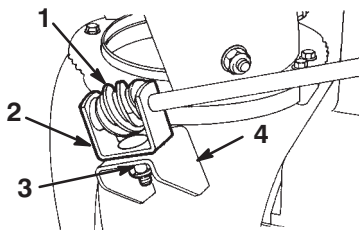

Figure 10
2. Apply No. 2 general purpose grease to the worm gear (Fig. 10).
3. Loosely mount the worm gear and the bracket to the mounting flange with a bolt, a pyramidal washer, and a locknut as shown in Figure 10.
4. Slide the worm gear into the teeth of the chute retaining ring and tighten the locknut (Fig. 10).